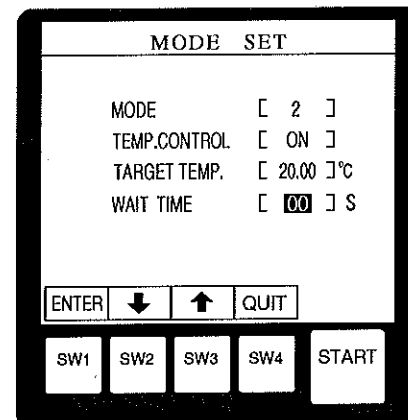

Fig. 10-8
g) The unit switches to a screen as shown in Fig. 10-8.